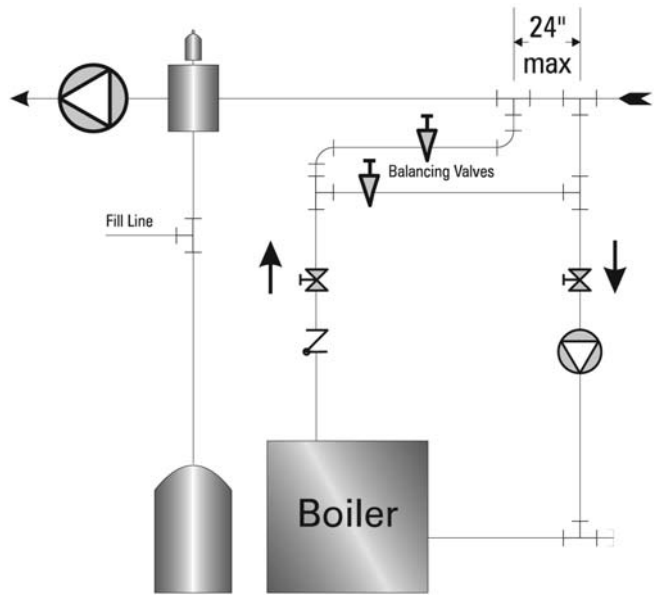
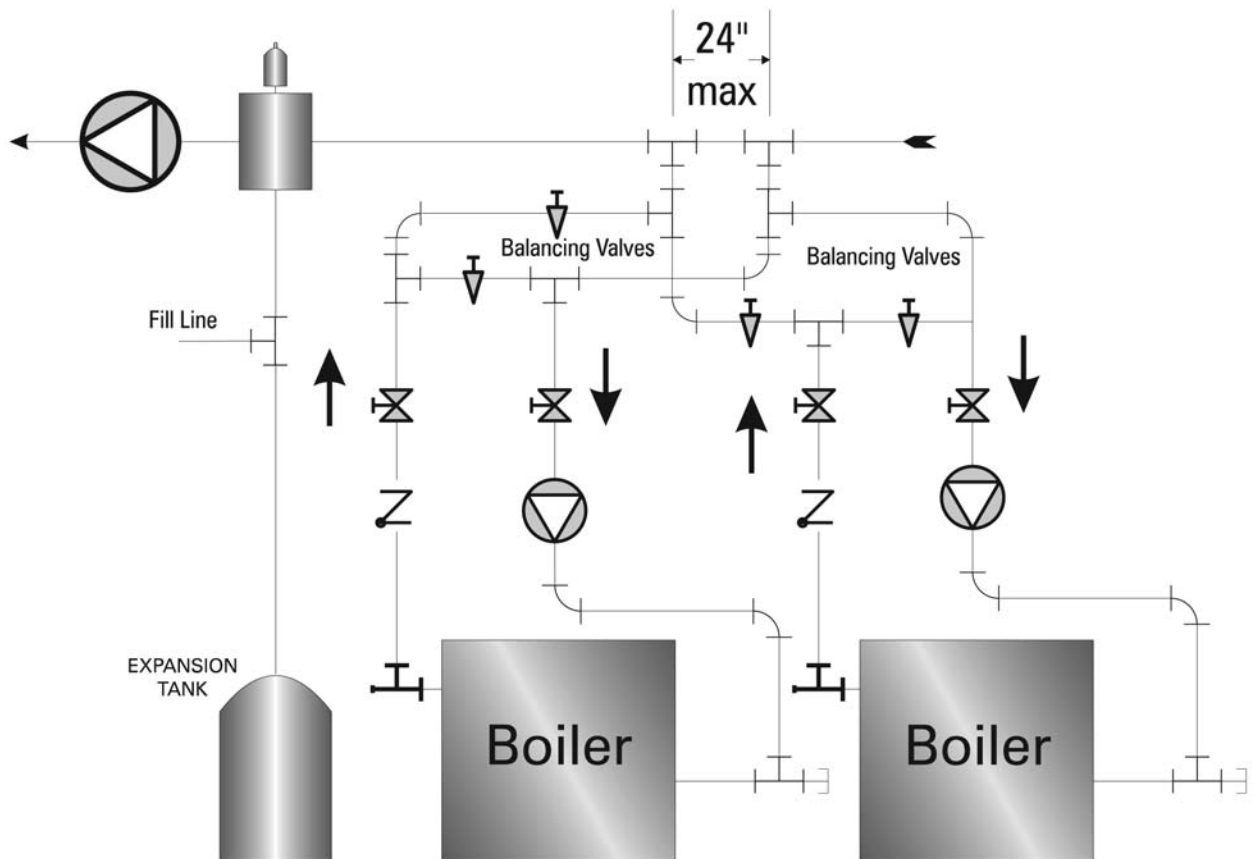

Figure 3.3: Fixed By-Pass Piping, Single Boiler
Figure 3.4: Fixed By-Pass Piping, Multiple Boilers
a) For systems with a relatively constant low operating temperature (such as heat pump systems), you can pipe a fixed flow by-pass arrangement as shown in Figure 3.3. This piping will not work for variable low temperature systems such as outdoor reset systems or primary/secondary systems with a large primary circuit temperature drop. See Figure 3.4 for multiple boilers.
1. For flow rates higher than given in Table 3.1, provide bypass piping around the boiler to limit the boiler flow to that given in the table or pipe the boiler in a secondary loop with its own pump as shown in Figure 3.3.
1. For multiple boiler installations, piping the boilers in a secondary loop is recommended. Each boiler should be provided with its own pump and piped off of the secondary loop header. See Figure 3.7 for systems with return temperature above 130°F on gas boilers or 150°F on oil boilers. For low temperature systems, see Figure 3.4 (constant low temperature systems) or Figure 3.8 (variable low temperature systems).